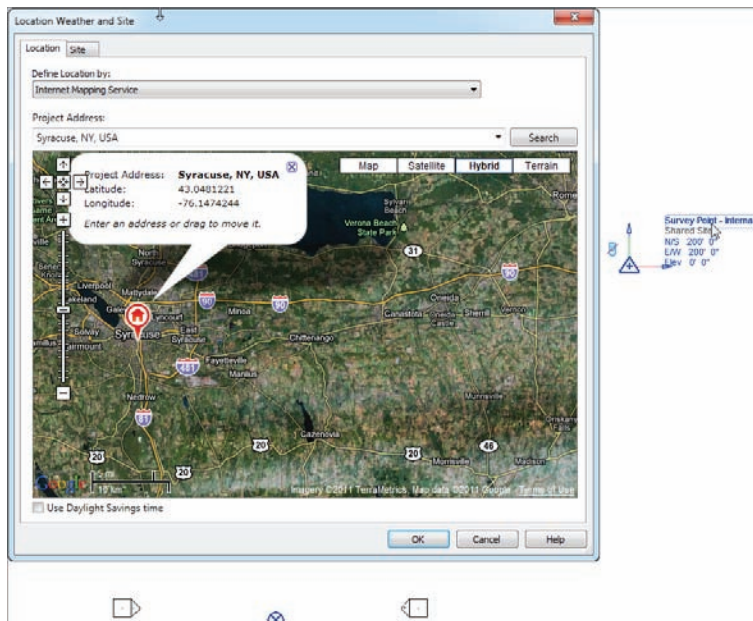

FIGURE 18.27 Setting the site
9. Click the Survey Point - Internal link, as shown in Figure 18.27.
14. Set the view to Hybrid. See Figure 18.27.